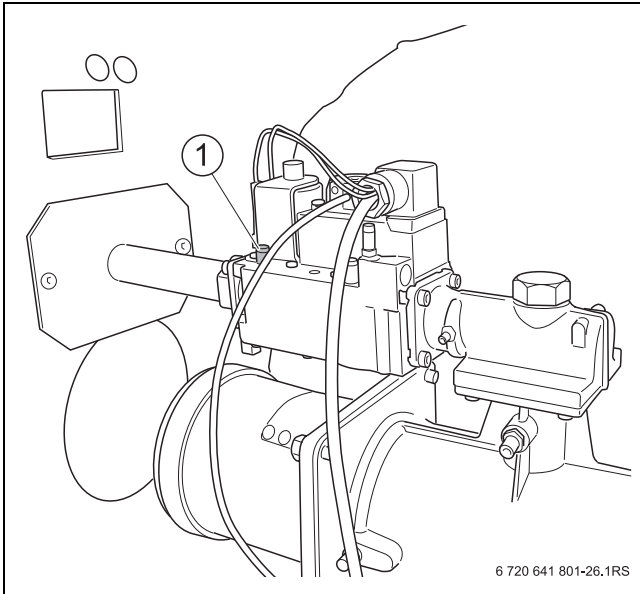

Fig. 28 Purge the gas line (boiler size 90/120 kW)
- ▶ Undo the pressure test nipple plug for the gas supply pressure and purging (→ Fig. 28, 29, 30 [1]) by two revolutions, and push on the hose.